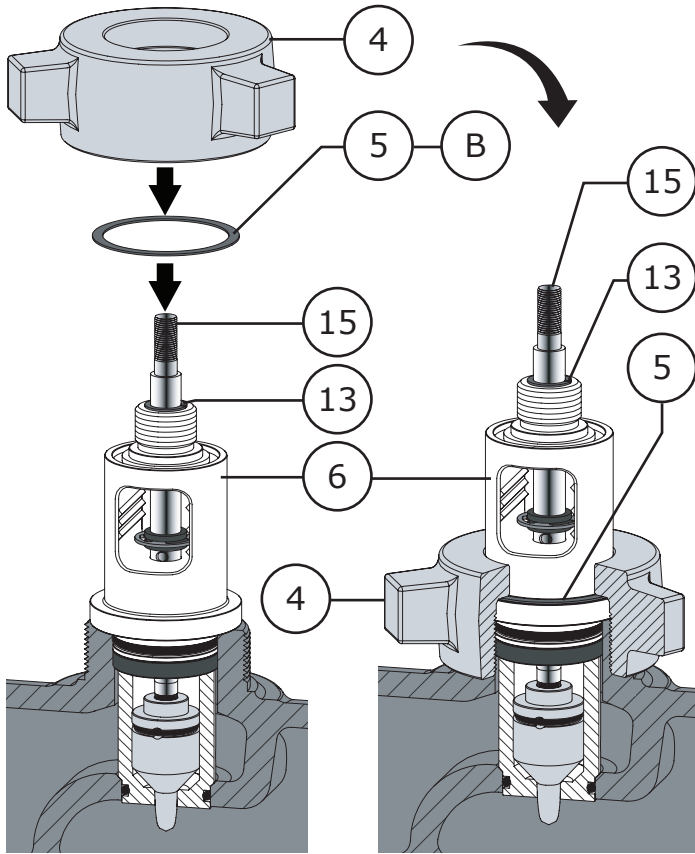

Figure 38 Bonnet Assembly Washer/Hammer Nut
- 9 Apply Permatex® Nickel Anti-Seize (Key A) to both sides of the bonnet washer (Key 5) and slide it over the bonnet (Key 6) so that it sits as shown in Figure 38.
- 10 Carefully slide the hammer nut (Key 4) over the valve bonnet (Key 6) so that it rests on top of the bonnet washer as shown in Figure 38.